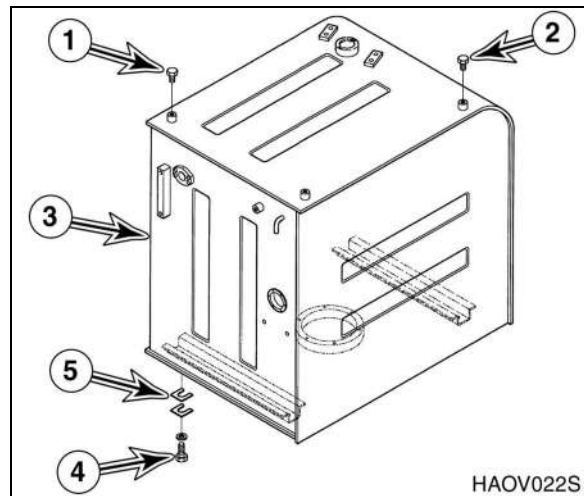

Figure 12
1. Install two 12 mm eye bolts in threaded holes at that bolts (1 and 2, Figure 12) came out of. Using a suitable lifting device, sling eye bolts.
2. Set fuel tank (3, Figure 12) into position. Install four bolts and washers (4) finger tight, to secure tank to frame.
3. Install shims (5, Figure 12) as needed to prevent tank (3) from rocking or stress from mounting bolts (4).
4. Tighten mounting bolts (4, Figure 12) after shims are installed.